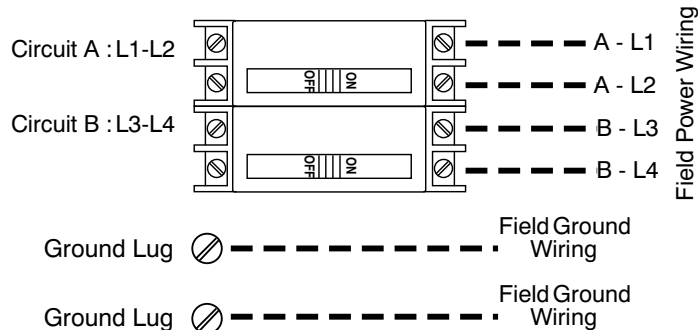

Fig. 6 – 12, 15 & 20 kW Circuit Breakers
- Units with 12kW, 15kW and 20kW heaters are wired for dual-supply circuits only (Fig. 6). Run each circuit through separate holes in the cabinet using the two high-voltage knockouts provided.